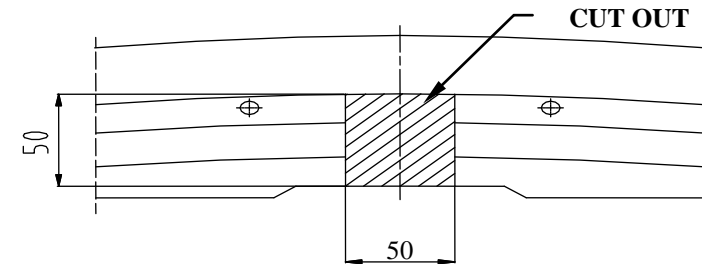

Fig.2.
3. In maked holes put sleevesi $\varnothing 17$ mm (pos. 8), length = 73 mm.
4. To rear side put base bar of towbar (pos. 1) in that way, so holes pos. A agree to holes for unscrewed reinforcement and screw using bolts M8x35mm (loosely) – pos. 13.
5. Elements (pos. 4 and 5) put to chassis members and rear side and screw using bolts M10x110 mm (pos. 11) and M10x35mm (pos. 12).
6. Assemble masking cover and bumper after cut his fragment 50x50mm – see fig. 2.